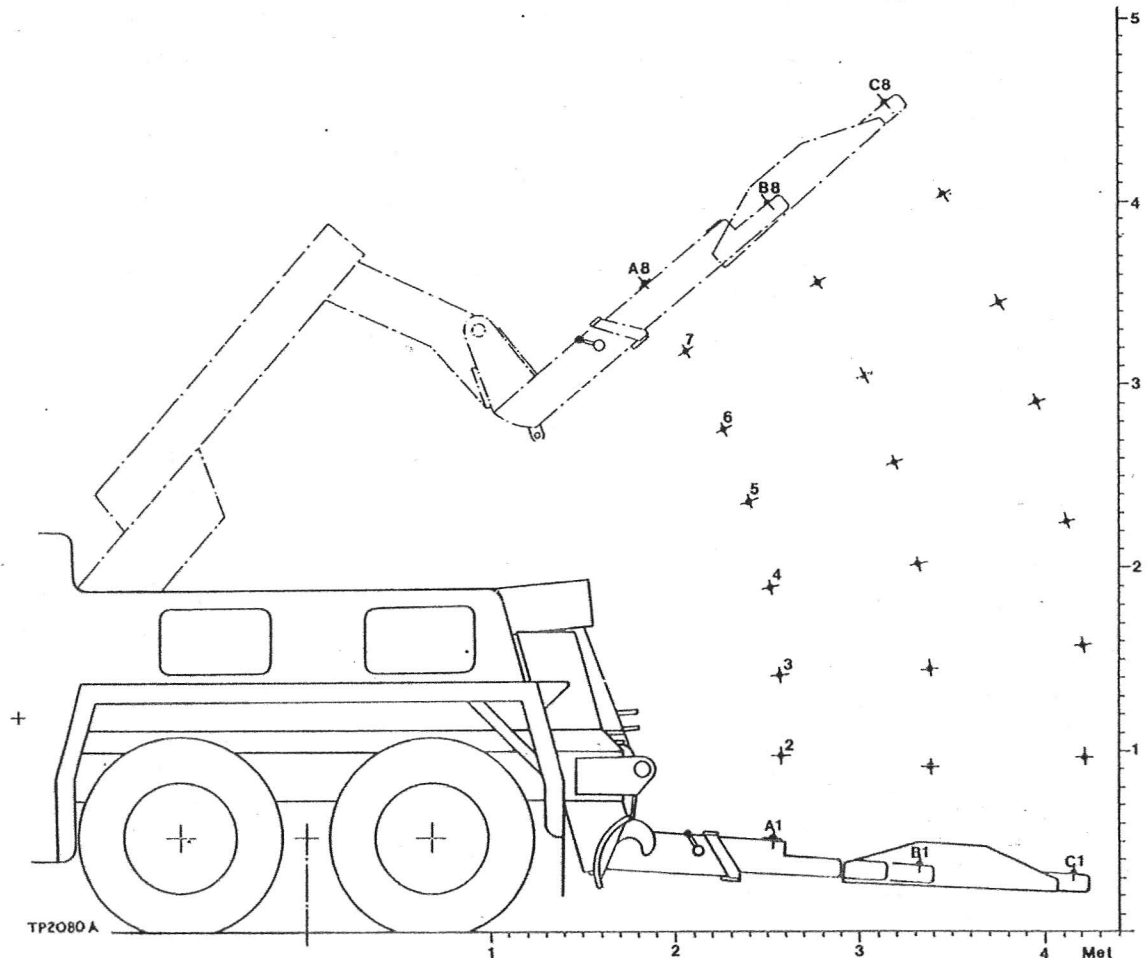

FIGURE 19 LOAD DIAGRAM
95. Safe Working Loads (See Figure 19 and Table ‘A’)